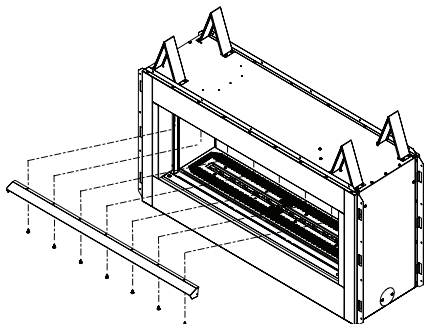

Figure 15 - Installing Hood
1. Loosen screws at top of face opening and slide hood through screws as shown in Figure 15.